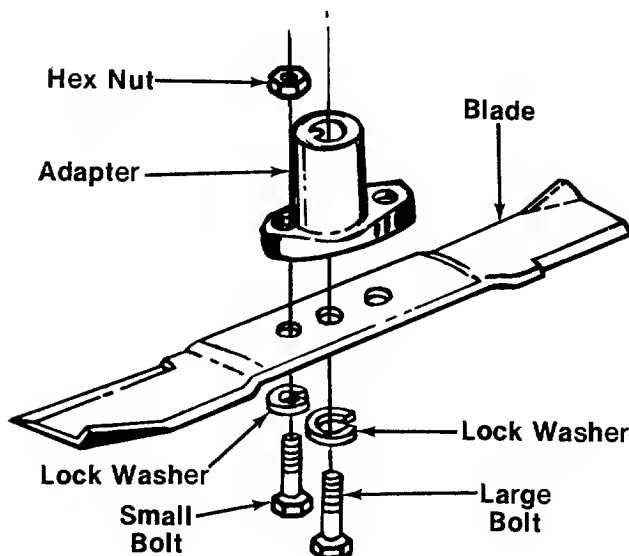

FIGURE 14.
1. Remove the large bolt and lock washer which holds the blade and adapter to the blade spindle. See figure 14.